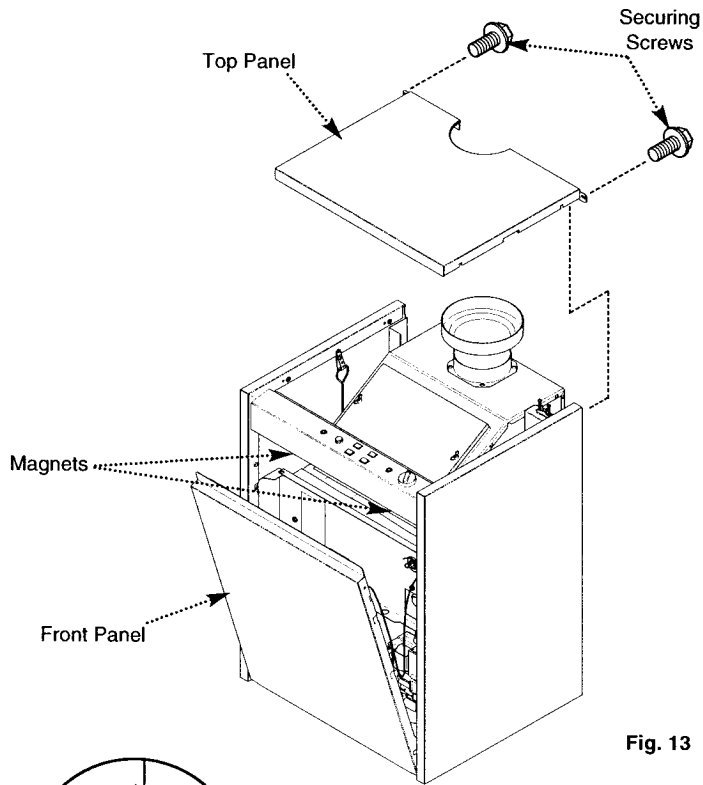

Fig. 13
1. Undo the two securing screws from the rear of the top panel. Remove the panel (Fig. 13).